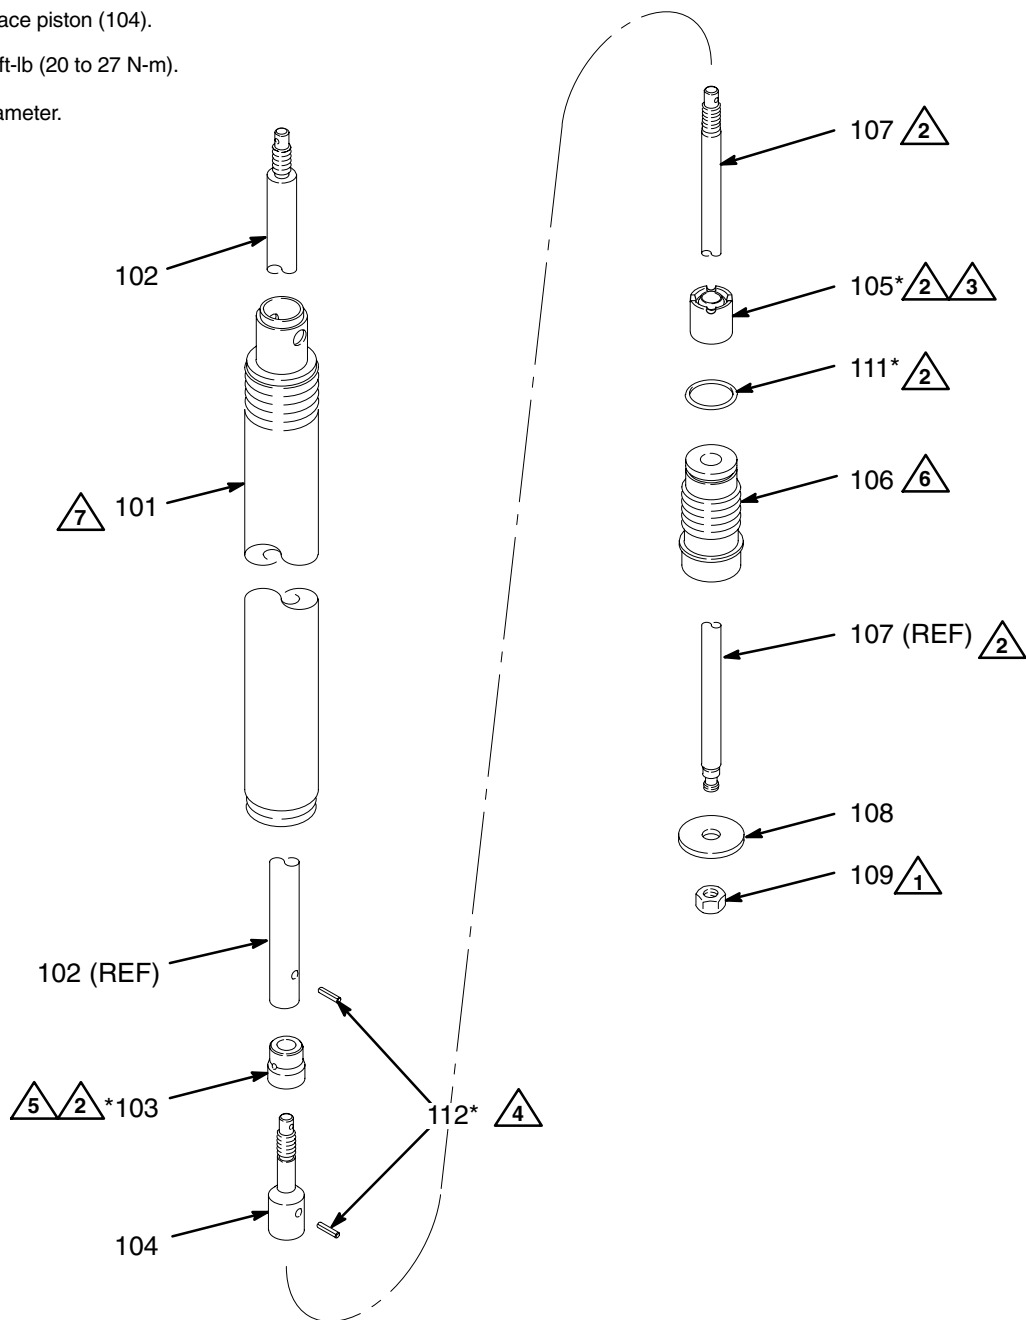

Fig. 9
1. Remove the air motor cover (69)..
2. Disconnect the displacement pump from the air motor (1), as explained on page 15.
3. Unscrew the packing retainer (106) from the pump cylinder (101). Pull the entire pump assembly out of the bottom of the cylinder. See Fig. 9.
4. Drive the pin (112) out of the connecting rod (102) and piston (104). Unscrew the piston from the rod. Slide the seal (103) off the piston.
5. Drive the pin (112) out of the piston (104) and priming piston rod (107). Unscrew the rod.
6. Slide the intake seal (105) off the rod (107). This may be difficult because there is friction between the seal and rod.
7. Slide the packing retainer (106) off the rod (107). Remove the o-ring (111) from the packing retainer.
8. Examine the o-ring (111) and priming piston (108) for scoring or damage. It is normal for the piston to show some movement on the rod. If either parts needs replacement, go to step 9.
9. If the rod (107) or the priming piston (108) needs to be replaced, insert a punch in the pin hole at the top of the rod to hold it steady. Unscrew the nut (109), and remove the priming piston. **If 107 or 108 do not need to be replaced, leave assembled.**
1. If the priming piston (108) was removed from the priming piston rod (107), reinstall it on the bottom threads of the rod (the end without a pin hole) and secure with the nut (109). Torque to 35 to 45 in-lb (4.0 to 5.1 N-m). Lubricate the rod. See Fig. 9.
2. Lubricate the o-ring (111*) and install it on the packing retainer (106). Slide the retainer onto the rod (107), with the o-ring at the top. Lubricate the intake seal (105*) and slide it onto the rod, with the flat side facing the packing retainer. There should be friction between the seal and the rod. If there is very little or no friction, replace the rod or the seal. It is not necessary to slide the seal all the way down to the retainer.
3. Screw the piston (104) onto the rod (107) until the pin holes align. Install the pin (112*). Be sure that the pin is flush or below the surface of the piston on both sides.
4. Lubricate the seal (103*) and install it on the piston (104), with the large bevel facing the piston.
5. Screw the connecting rod (102) onto the piston (104) until the pin holes align. Install the pin (112*). Be sure that the pin is flush or below the surface of the connecting rod on both sides.
6. Lubricate the inside of the cylinder (101). Slide the rod assembly into the bottom of the cylinder. There may be a lot of friction, but do not use a hammer or rubber mallet to drive the assembly, to avoid damaging the parts.
7. Screw the packing retainer (106) into the cylinder (101). Using a socket wrench or crow's foot wrench, torque to 15 to 20 ft-lb (20 to 27 N-m).
8. Continue to push the rod assembly up as far as possible. Reconnect the displacement pump to the air motor (1) as explained on page 15.